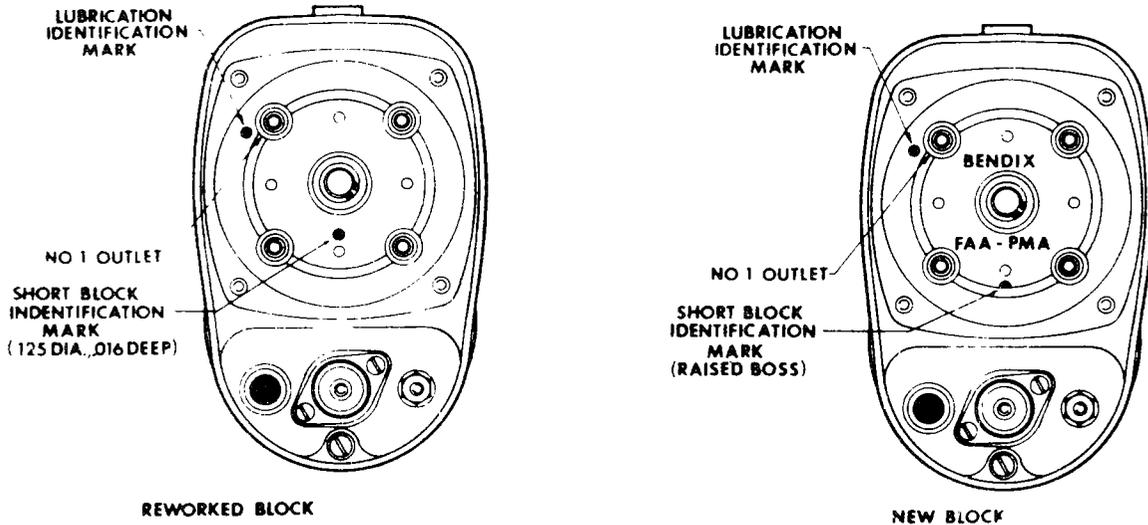

Figure 2
boss between the high tension towers at the six o'clock position and molded in letters as shown in figure 2. Reworked blocks are identified by a drill point indentation in the same location. New and reworked blocks both have different part numbers from the current (old) block. See Table 1.
- Identify reworked blocks by drilling a flat bottomed hole .125" diameter and .016" deep in the six o'clock position as shown in figure 2
a. If distributor block is not marked with a raised boss or drill point indentation to the left and adjacent to the No. 1 high tension tower (see figure 2), remove old lubricant from bushing as follows.
(1) Place distributor block, high tension towers up, on a piece of absorbant material, such as cardboard, in a 250°F oven for 4 hours. This should cause impregnating oil to appear on the surface of the bushing and on the absorbant material.
(2) Remove block from oven and using a clean dry cloth, immediately wipe all oil possible from inside diameter of bushing. It may be necessary to do this several times as part cools.
(3) Identify distributor block by drilling flat bottomed indentation .125 inch diameter and .016 inch deep located as shown in figure 2.